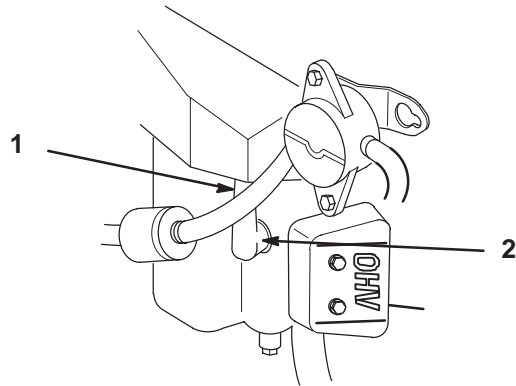

Figure 37
2. Pull the wire(s) off the spark plug(s) (Fig. 37). Now clean around the spark plug(s) to prevent dirt from falling into the engine and potentially causing damage.
3. Push the wire(s) onto the spark plug(s) (Fig. 37).